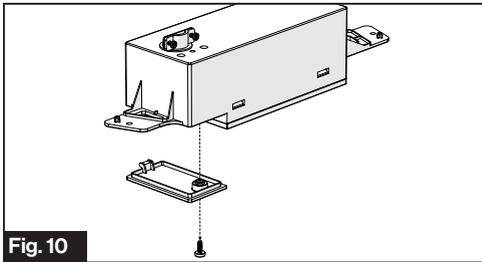

Fig. 10
- Remove the cable compartment cover using a Phillips screw driver. (Fig. 10)